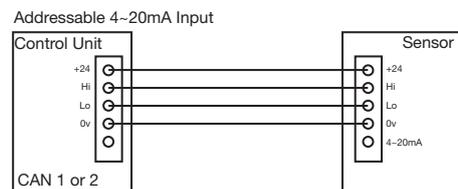

Fig. 2
3. Connect terminal J10 as shown in Fig.2